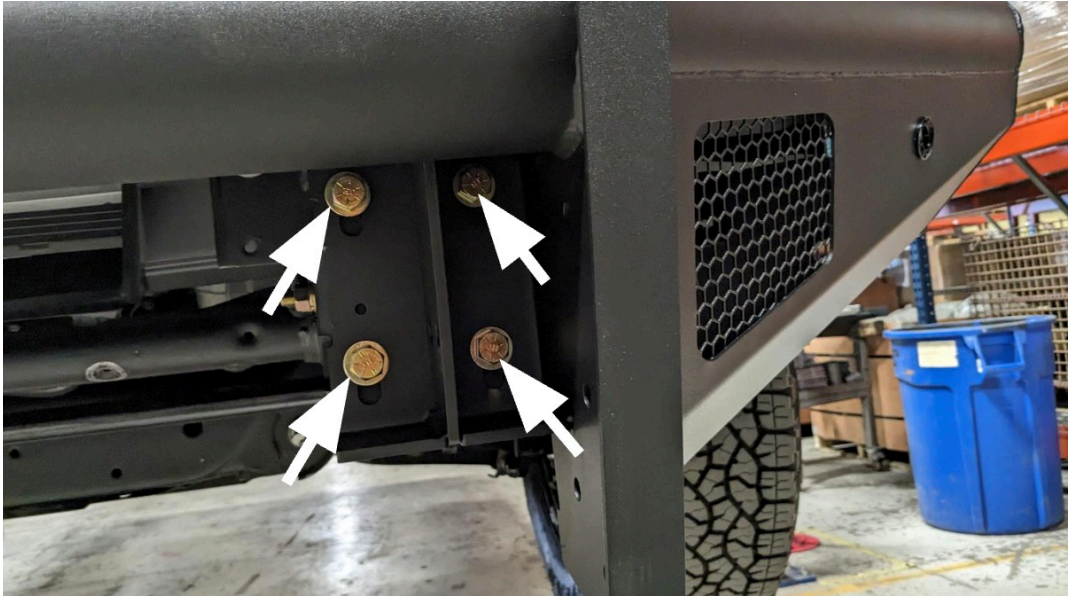

Figure 26
23. Using a 3/4" socket and combination wrench, install the bumper to the frame brackets with the eight (8) provided 1/2"-13 x 1.5" hex head cap screws, flat washers, lock washers and nuts. (Figure 26)